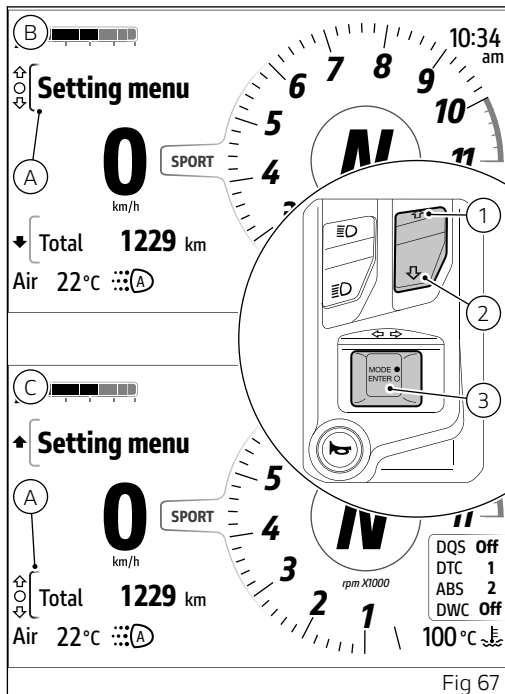

Fig 67
When one of the menus is selected, it is indicated with the active frame (A, Fig 67) and buttons (1), (2) and (3) are used for menu navigation and interaction. To toggle the selection between "Interactive menu" and "Info display" and vice versa:
- if "Interactive menu" is currently selected, long press and hold button (2) to move the selection to "Info display" (C, Fig 67);
- if "Info display" is currently selected, long press and hold button (1) to move the selection to "Interactive menu" (B, Fig 67).